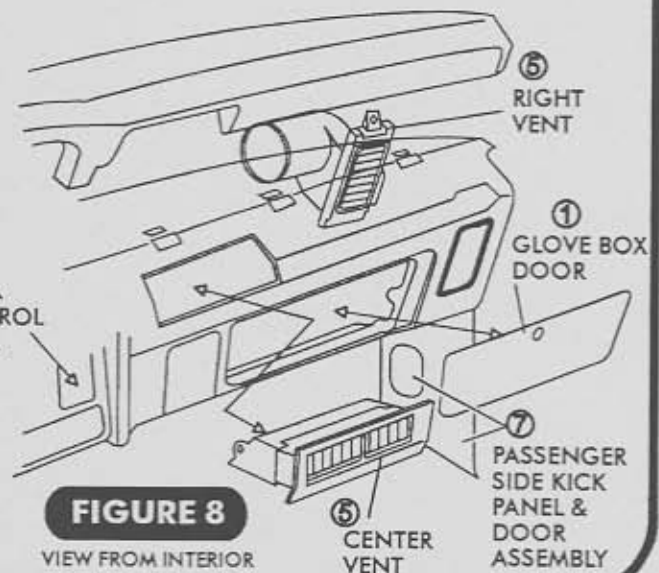

FIGURE 8
- 1. GLOVE BOX DOOR. SEE FIGURE 8.
- 5. A/C HEAT OUTLETS (RETAIN). INSTRUMENT PANEL MUST BE REMOVED TO GET TO LEFT OUTLET (SEE FIGURE 7) AND CONTROL PANEL (SEE FIGURE 8).